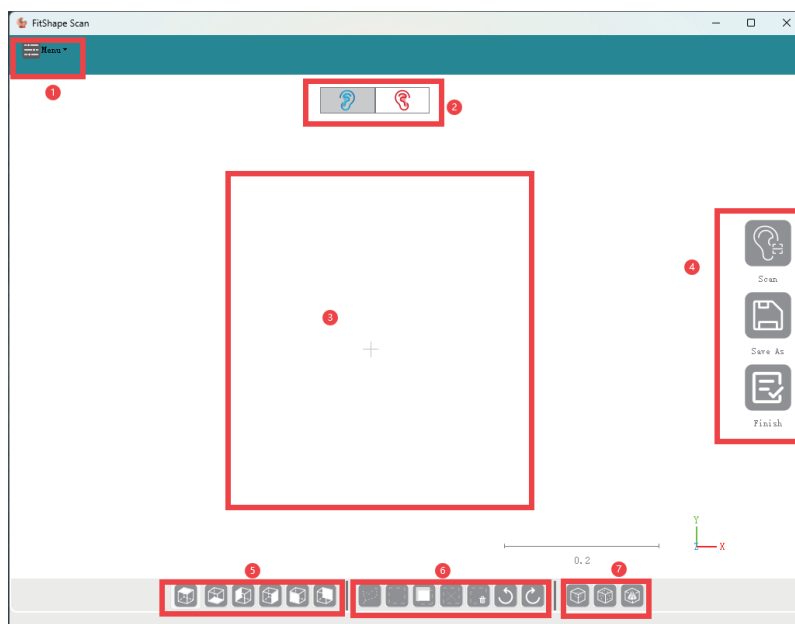

Figure 1-2
(2) The main interface is divided into several areas, namely ① menu, ② left and right ear switching, ③ impression model display, ④ operation function, ⑤ view switching, ⑥ editing function, ⑦ display mode switching. See Figure 1-2.